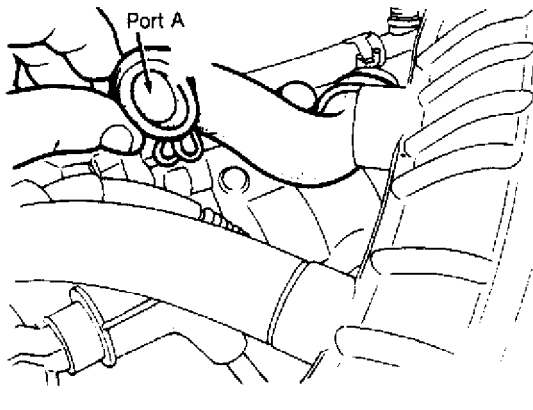

Fig. 50: Testing Air Valve (MPV 3.0L & 929)
1) Disconnect air hoses from air valve. Blow air through valve from port "A" and ensure air flows through valve when engine is cold. See Fig. 50.